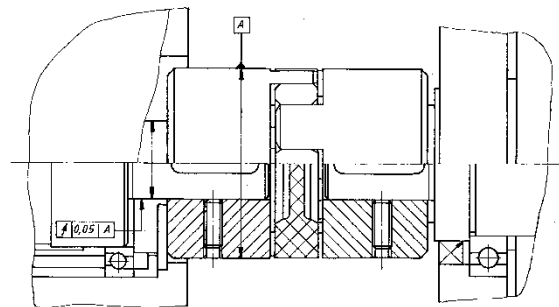
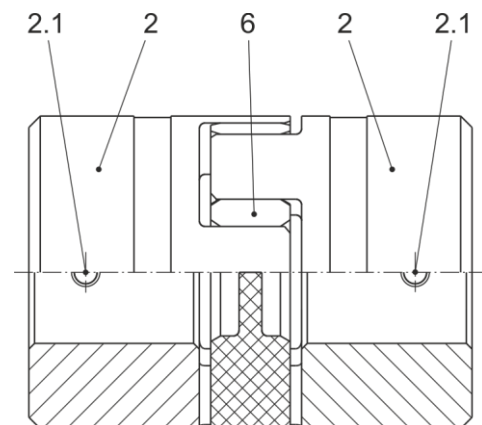

Fig. 5
Fig. 11
- ❑ The recommended bore tolerances are to be produced using the position and tolerance width as references; at the same time, please keep to the shaft run-out tolerance of 0.05 mm to "A" (see Fig. 5).
Due to its optimum construction the ROBA®-ES coupling offers the possibility to connect the coupling axially after the hubs have been assembled onto the drive or driven shafts. Any subsequent screwing together and special housings are not necessary (see Installation Examples figures 5, 6 and 15).
Installation of the Coupling Hubs with Keyway (Item 2 / Fig. 11)
- 1) Mount the coupling hubs (2) onto both shaft ends using a suitable device and bring them into the correct position.
- 2) Secure the hubs (2) axially. Axial securement takes place via a set screw (adjusting screw Item 2.1, see Fig. 11 and installation example Fig. 5 / page 13).